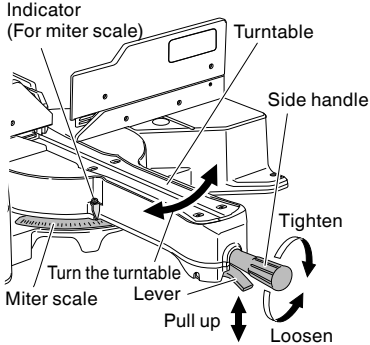
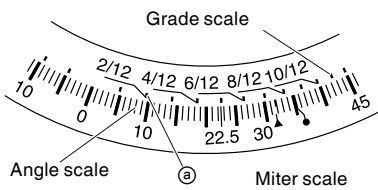

Fig. 32
Fig. 33
- (1) Loosen the side handle and pull up the lever for angle stoppers. Then, adjust the turntable until the indicator aligns with desired setting on the miter scale (Fig. 32).
- (2) Re-tighten the side handle to secure the turntable in the desired position.
- (3) The miter scale (Fig. 33) indicates both the cutting angle on the angle scale and the gradient on the grade scale.
- (5) Therefore, to cut a workpiece at a grade of 2/12, set the indicator to position ② as indicated in Fig. 33.